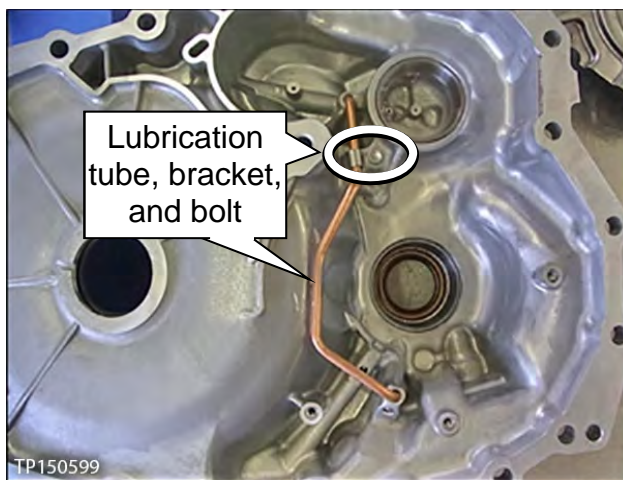

Figure 155
- b. Remove the bolt and then remove the lubrication tube and its bracket (Figure 155).